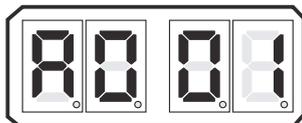

Figure 10-1: Display Function Code
- Depress the Up or Down Push Button to activate the Function Code List. The characters A001 will be shown on the Display like Figure 10-1: Display Function Code